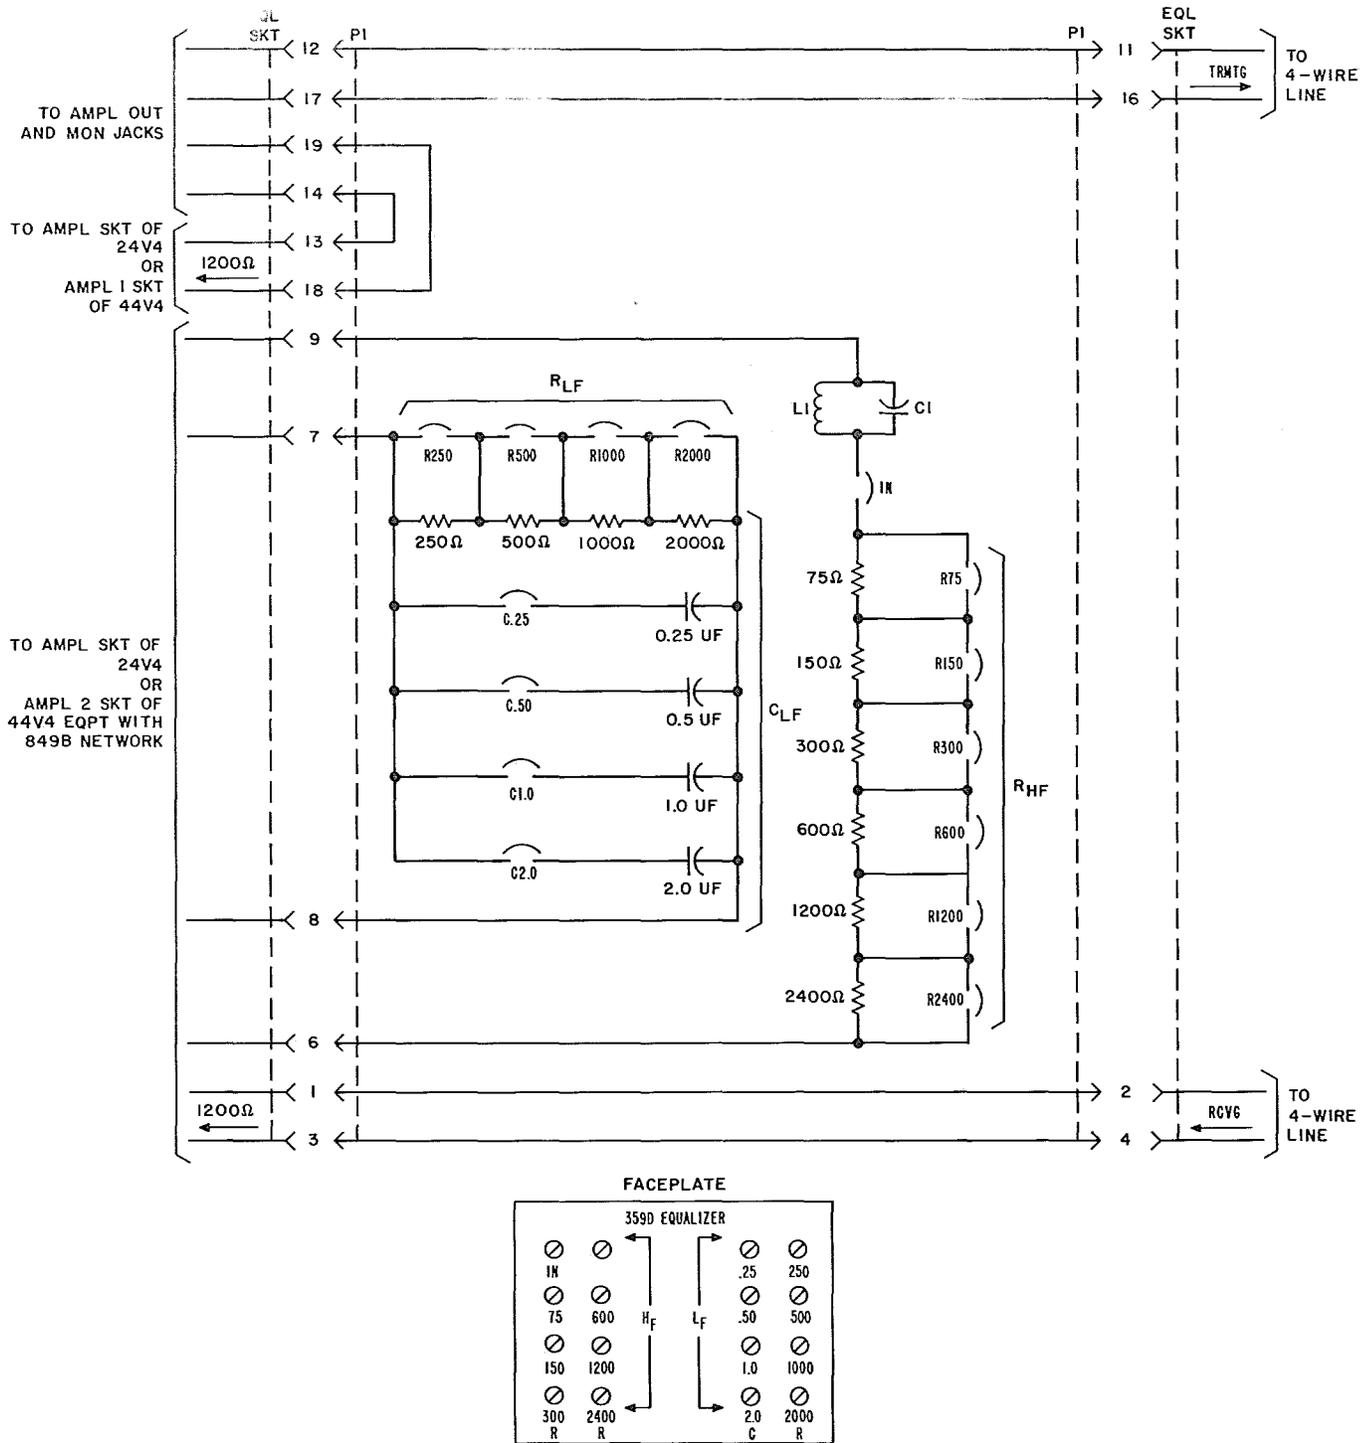

Fig. 3—359D Equalizer—Schematic and Typical Circuit Connections
3.02 Figure 3 is a schematic of the 359D equalizer illustrating typical circuit connections when plugged into the equalizer connector socket of a 24V4 or a 44V4 repeater. The transmitting side of the 359D equalizer provides no equalization but does provide connections to the AMPL OUT and MON jacks on the mounting shelf and thus connects the 1200-ohm output at the T AMPL SKT to the H88-loaded, 4-wire line if the repeater is 24V4 or connects the 1200-ohm output at the AMPL 1 SKT to the line if the repeater is 44V4.